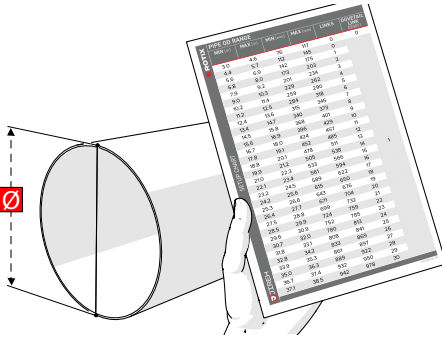

Fig. 153 - Refer to setup chart
1. Determine the diameter of the pipe or tube to be scanned. The **ROTIX** kit includes a setup chart indicating the number of links required based on the pipe or tubing diameter (Fig. 153).